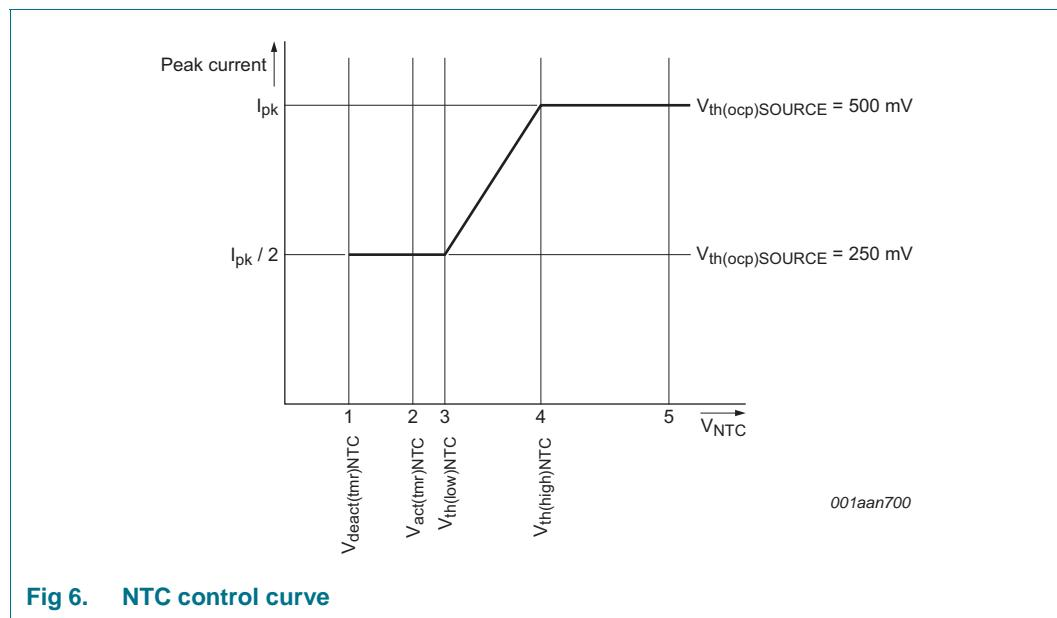

Fig 6. NTC control curve
The NTC pin can be used as a control method for LED thermal protection. Alternatively, the pin can be used as an input to disable/enable light output using a digital signal (PWM dimming). The pin has an internal current source that generates the current of $I_{\text{offset}(\text{NTC})}$. An NTC resistor to monitor the LED temperature can be directly connected to the NTC pin. Depending on the resistance value and the corresponding voltage on the NTC pin, the converter reacts as shown in Figure 6.
When the voltage on the NTC pin is higher than $V_{th(\text{high})\text{NTC}}$ see Figure 6 (4), the converter delivers nominal output current. When the voltage is lower than this level, the peak current is gradually reduced until $V_{th(\text{low})\text{NTC}}$ is reached, see Figure 6 (3). The peak current is now half the peak current of nominal operation. When $V_{act(\text{tmr})\text{NTC}}$ is passed, see Figure 6 (2) a timer starts to run to distinguish between the following situations:
- If the low-level $V_{deact(\text{tmr})\text{NTC}}$ is not reached within time $t_{to(deact)\text{NTC}}$, Figure 6 (1) LED overtemperature is detected. The IC stops switching and attempts to restart from the HV pin voltage. Restart takes place when the voltage on NTC pin is higher than $V_{th(\text{high})\text{NTC}}$, see Figure 6 (4). It is assumed that the reduction in peak current did not result in a lower NTC temperature and LED OTP is activated.
- If the low-level $V_{deact(\text{tmr})\text{NTC}}$ is reached within the time $t_{to(deact)\text{NTC}}$, Figure 6 (1) it is assumed that the pin is pulled down externally. The restart function is not triggered. Instead, the output current is reduced to zero. PWM dimming can be implemented this way. The output current rises again when the voltage is higher than $V_{deact(\text{tmr})\text{NTC}}$.
The NTC pin can be used to make a soft start function. During switch-on, the level on the NTC pin is low. By connecting a capacitor (in parallel with the NTC resistor), a time constant can be defined. The time constant causes the level on the NTC pin to increase slowly. When passing level $V_{th(\text{low})\text{NTC}}$ Figure 6 (3), the convertor starts with half of the maximum current. The output current slowly increases to maximum when $V_{th(\text{high})\text{NTC}}$ Figure 6 (4) is reached.